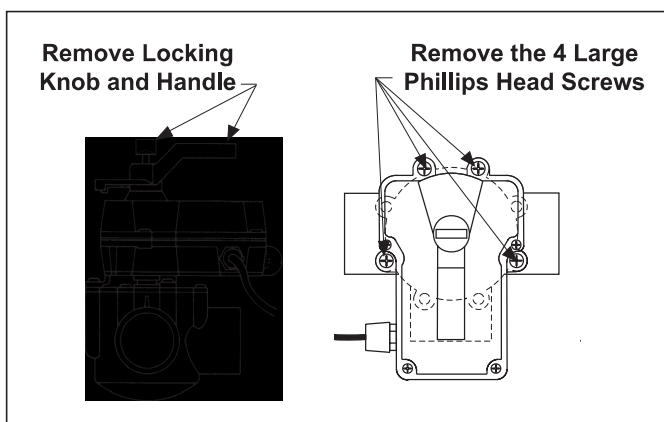

Figure 4. Remove Locking Knob and Lid Screws
1. Unscrew the locking knob by turning the knob counterclockwise. Remove the locking knob and valve handle (see Figure 4).
2. Remove the four (4) large Phillips head screws from the valve. The location of the screws you remove will determine how the actuator will be mounted (see Figure 4).